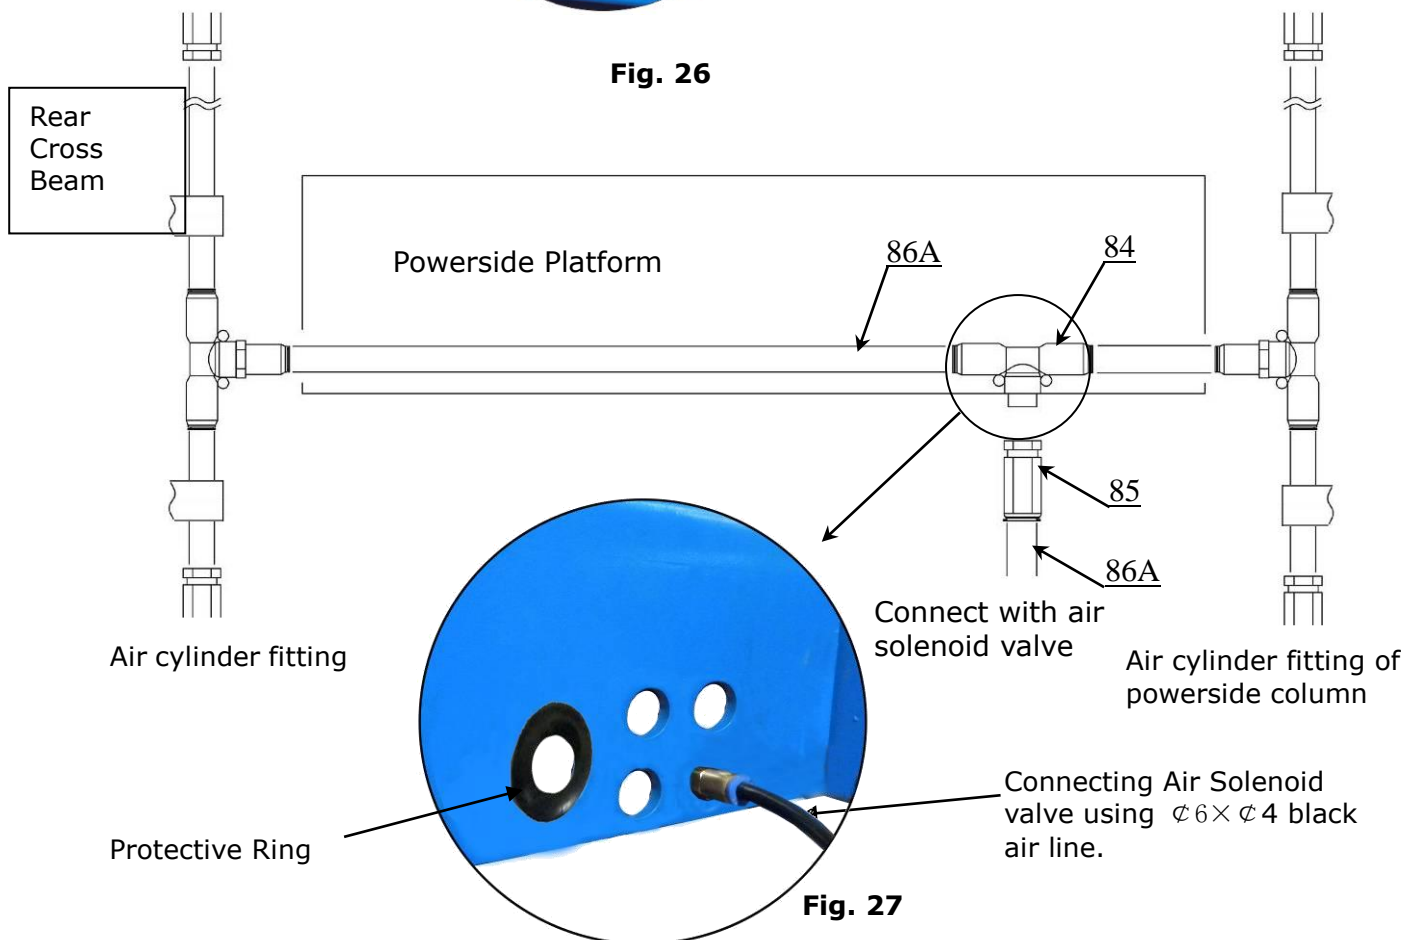

Fig. 27
2. Connecting front and rear cross beam air system by using $\phi 6 \times \phi 4$ black air line (See Fig. 27).
3. Connecting air solenoid valve by using $\phi 6 \times \phi 4$ black air line (See Fig. 27).